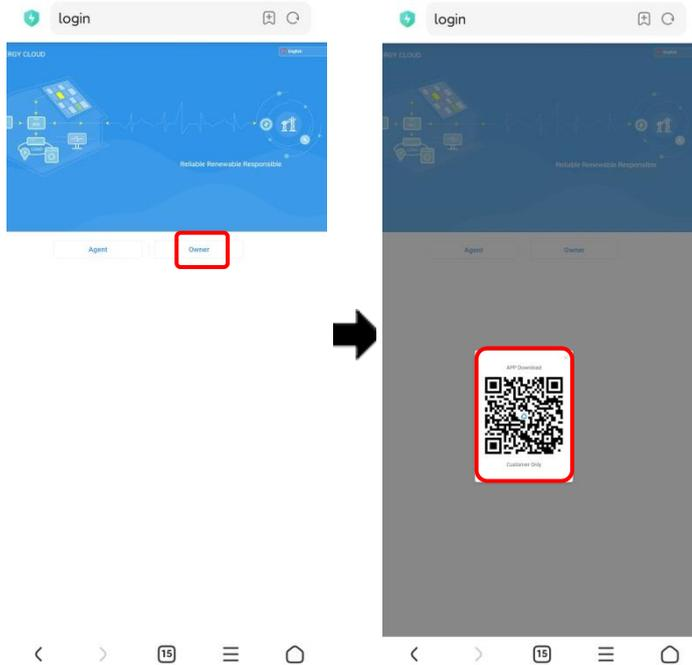

Figure4-1 Enter the APP download website
Step 1 Enter website <http://energy.kehua.com>, select **Owner**, and scan QR code, as shown in Figure4-1.